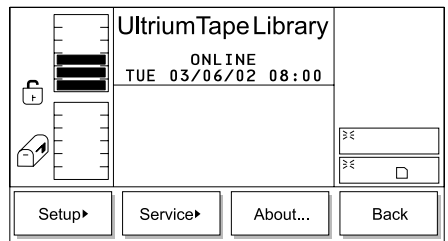

Figure 235. Main Menu (alternate screen)
1. From the Main Menu's initial screen, press the button below the **More** softkey. The Main Menu's alternate screen displays (see Figure 235).